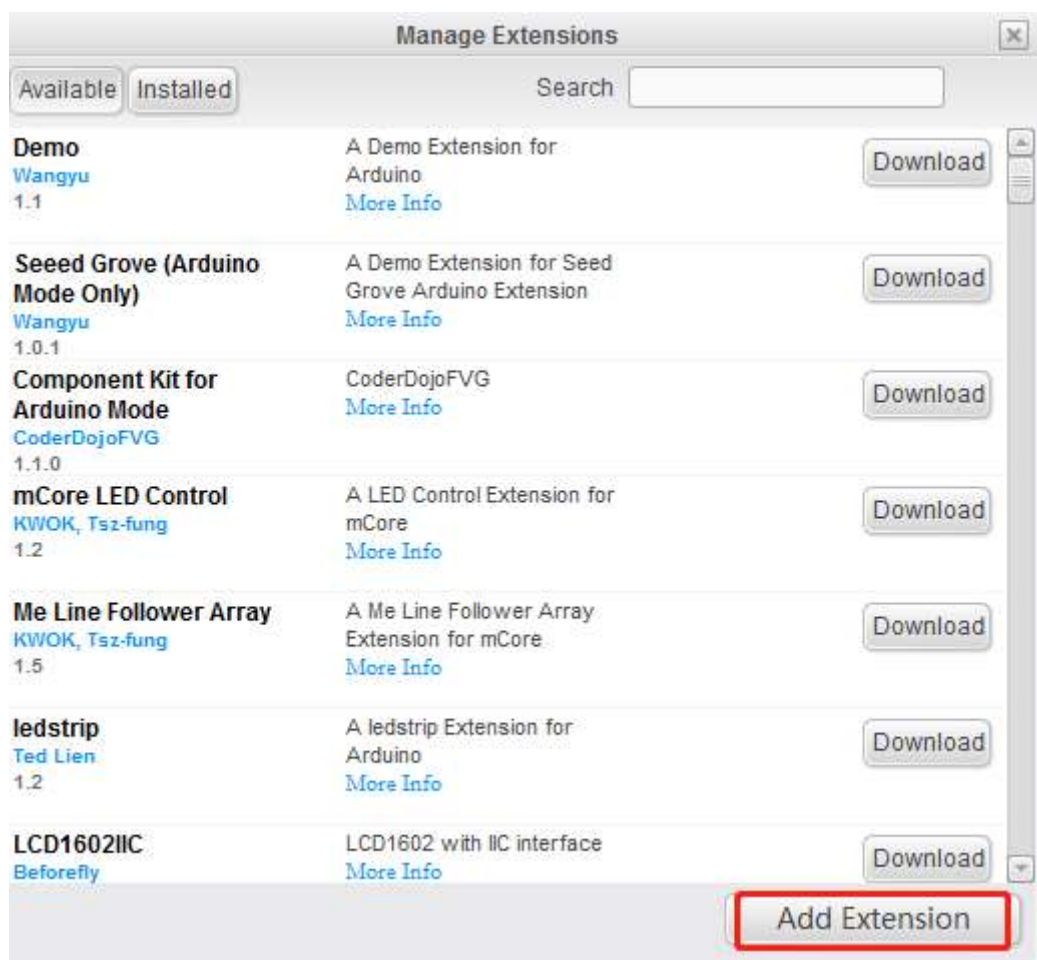

Figure 2-2
- 3) In the Extension Manager, click "Add Extension" in the lower right corner, as shown in Figure 2-2.